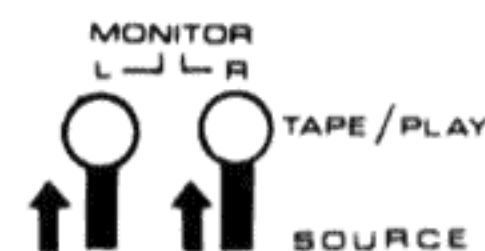

Fig. 31
11. To ascertain the quality of the recording being made, set the MONITOR switches at position TAPE/PLAY (Fig. 31). You now hear the taped sound, as picked up by the playback head, through headphones or speakers. If this check reveals poor sound quality, check the possible sources of trouble such as recording level adjustment, wrong REC BIAS or